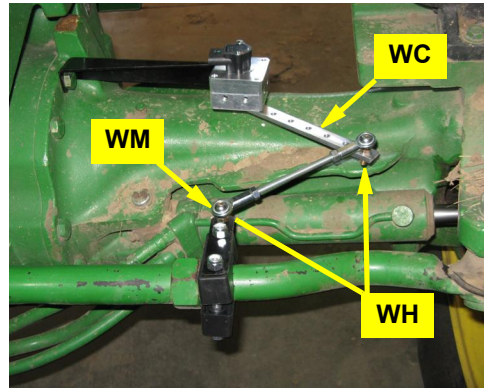

Figure 2d: WAS linkage rod connected
- d. Using the remaining hardware **WH**, install the assembled WAS linkage from step 1f between the rod bracket **WM** and the last hole in the WAS connector arm **WC**. Install the linkage with the swivel studs downwards but leave the swivel stud nuts **WH** loose (Figure 2d).